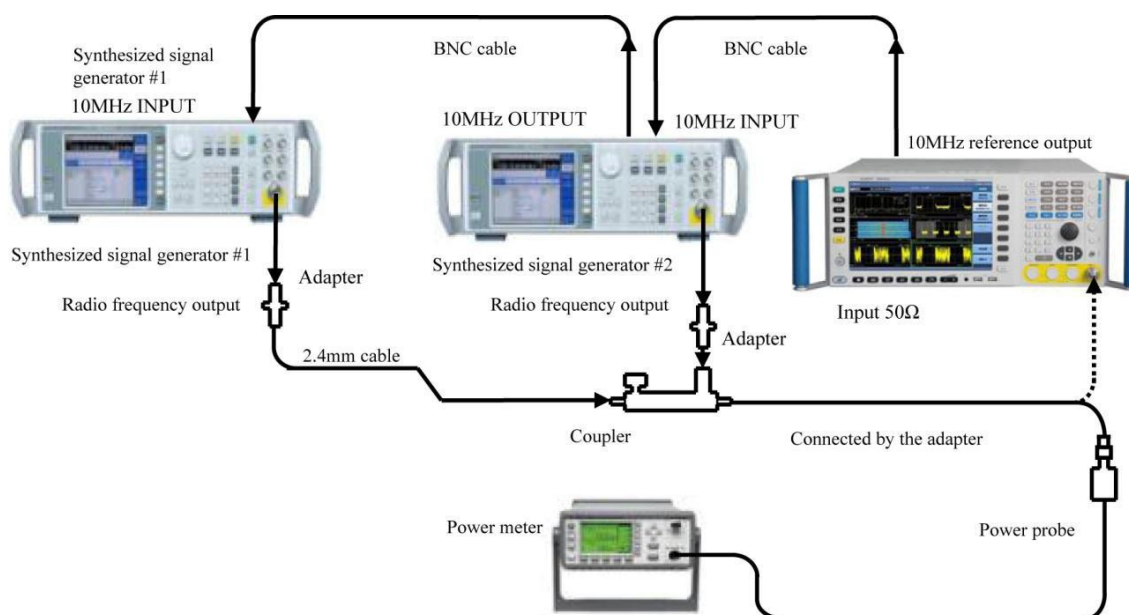

Fig. 8.13 Schematic diagram of 1 dB gain compression test
- 4) Connect the instrument according to solid lines in Fig. 8.13 with the output of the RF direction couple connected via the adapter to the power sensor.
- 6) Change the connections in the test according to dotted lines in Fig. 8.13, turn on the output of synthesized signal generator #2 and adjust the power level of synthesized signal generator #2 to display the signal peak 2 - 3 divisions under the S3503 reference level.
- 10) Connect the instrument according to solid lines in Fig. 8.13. Set the center frequency of the S3503 analyzer as 100 MHz, the frequency of synthesized signal generator#1 as 103 MHz and the frequency of synthesized signal generator#2 as 100 MHz.
- 13) Connect the instrument according to solid lines in Fig. 8.13. Set the center frequency of the S3503 analyzer as 200 MHz, the frequency of synthesized signal generator#1 as 2.003 GHz and the frequency of synthesized signal generator#2 as 2 GHz.
- 17) Connect the instrument according to solid lines in Fig. 8.13. Set the center frequency of the S3503 analyzer as 5 GHz, the frequency of synthesized signal generator#1 as 5.003 GHz and the frequency of synthesized signal generator#2 as 5 GHz.
- 21) Connect the instrument according to solid lines in Fig. 8.13. Set the center frequency of the S3503 analyzer as 15 GHz, the frequency of synthesized signal generator#1 as 15.003 GHz and the frequency of synthesized signal generator#2 as 15 GHz.